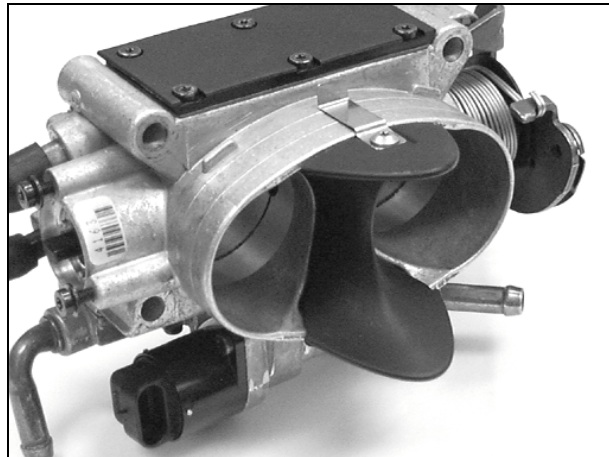

Figure 2
3. Install the air foil with metal tabs on outside of throttle body as shown in Figure 2.